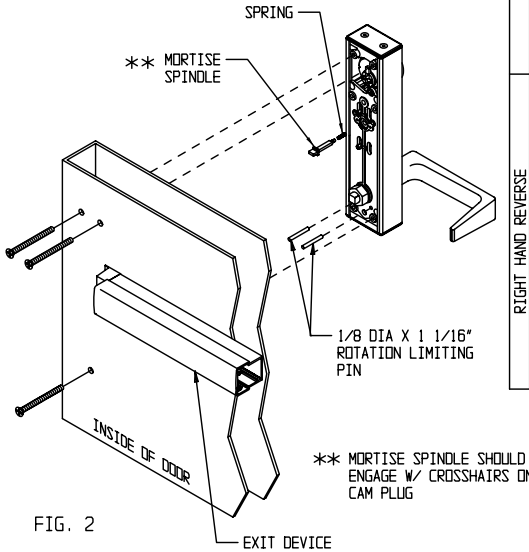

FIG. 2
- Remove the solenoid from the lever trim assembly by removing the two (2) flat head screws #6-32 x 1/4" that secure the solenoid assembly.
- Reinstall the solenoid assembly onto the lever trim assembly. The position of the solenoid actuation cam will differ between fail-safe and fail-secure solenoids. Refer to figure 2 or figure 3 for proper positioning of the solenoid actuation cam.
- Fasten solenoid assembly using two (2) flat head screws #6-32 x 1/4".